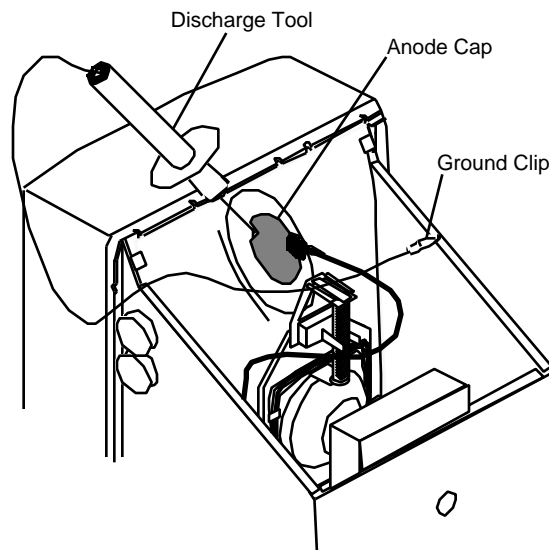

FIGURE 6
4. Attach the clip of the CRT discharge tool to any metal part of the chassis (**Figure 6**).
6. Hold the CRT discharge tool to the tube surface, and insert its probe under the anode cap (**Figure 6**) until it touches the anode ring.